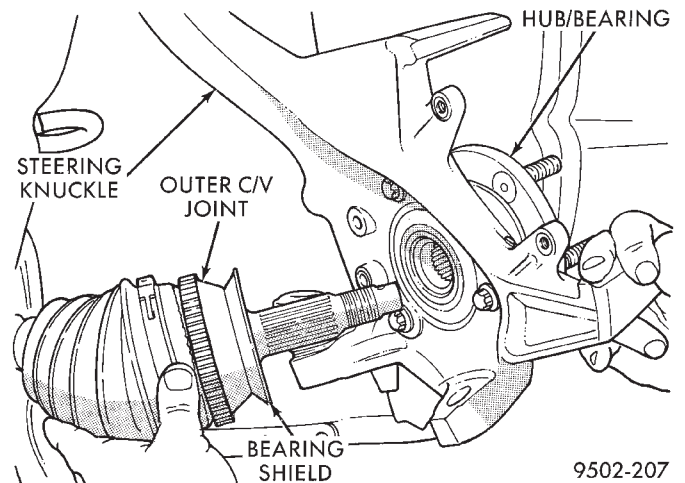

Fig. 12 Separating Steering Knuckle from Outer C/V Joint
(14) Pull steering knuckle assembly out and away from outer C/V joint of the driveshaft assembly (Fig. 12).